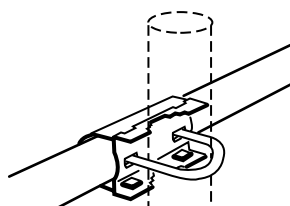

Fig. 9
7. If your antenna has boom braces, secure them to the mast below the antenna as shown in Fig. 9. (Make sure the main crossarm is straight when tightening U-bolt nuts securing the boom braces.)